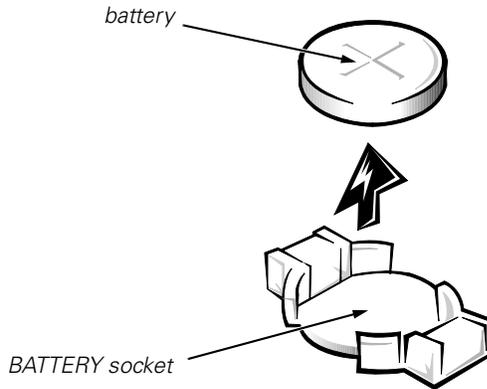

Figure 4-25. System Battery Removal
- 3. Remove the battery (see Figure 4-25) by prying it out of its socket with your fingers or with a blunt, nonconducting object, such as a plastic screwdriver.**